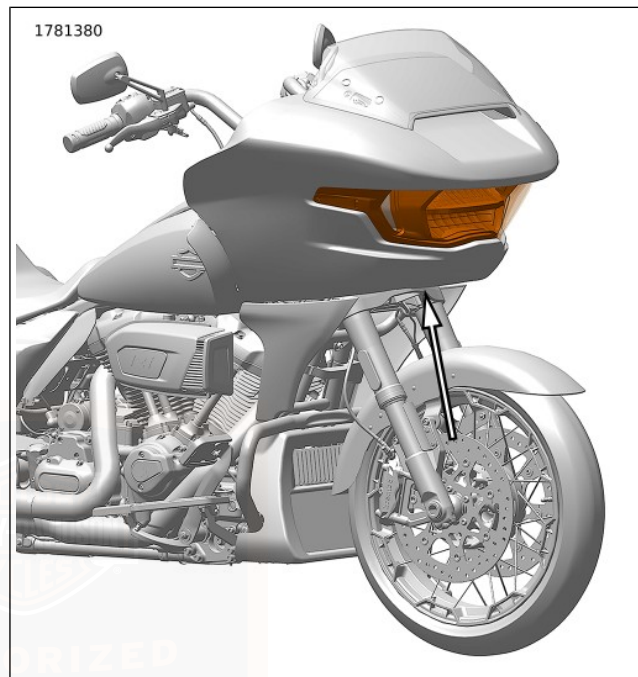
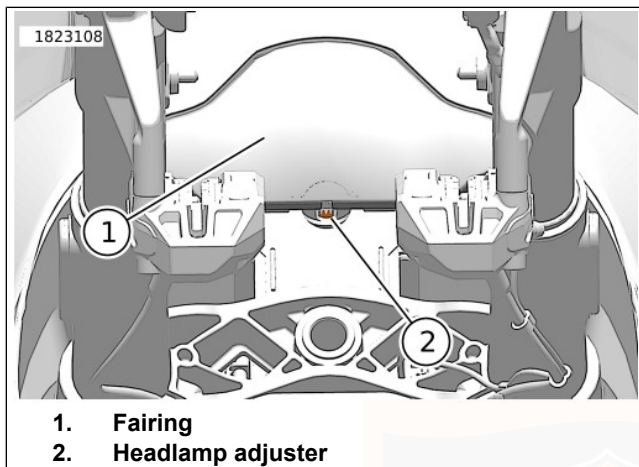

Figure 114. Headlamp Adjuster
Figure 115. Headlamp Adjuster (view from under fairing)
1. See Figure 114 and Figure 115. Insert an appropriately sized Philips #2 screwdriver vertically, behind the chin close-out panel.